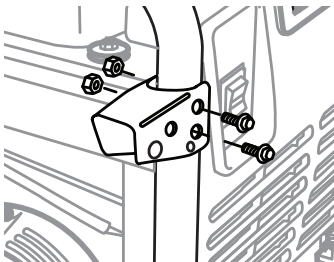

FIGURE 11: Handle Bracket to Frame
- ☐ Handle pivot brackets (2)
- ☐ Handle bars (2)
- ☐ Pin and chain (2)
- ☐ Rubber handle grips (2)
- ☐ M6 X 40 mm long hex flange bolts (6)
- ☐ M6 serrated flange nuts (6)
1. Hold handle pivot bracket over pre-drilled holes on frame as shown in Figure 11.